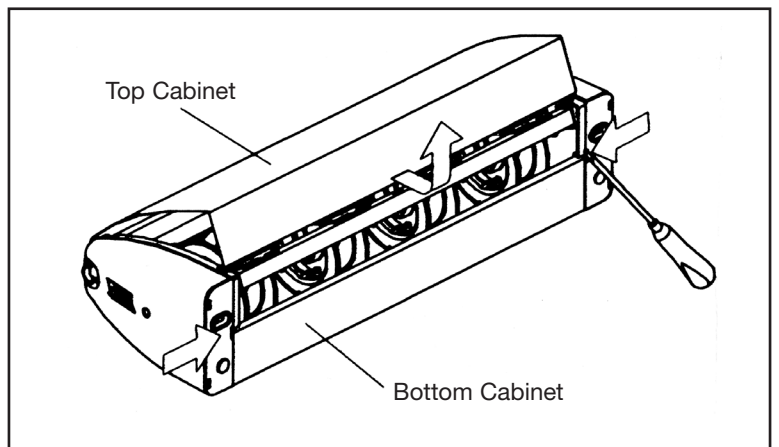

Fig 2
- Using a small flat screwdriver, unclip both ends of the cabinets (top and bottom). Pull out and up to remove. See **Fig 2**.
- Replace the Top and Bottom Cabinets by locating the front nose first and then clipping the back into position, the reverse of **Fig 2**.